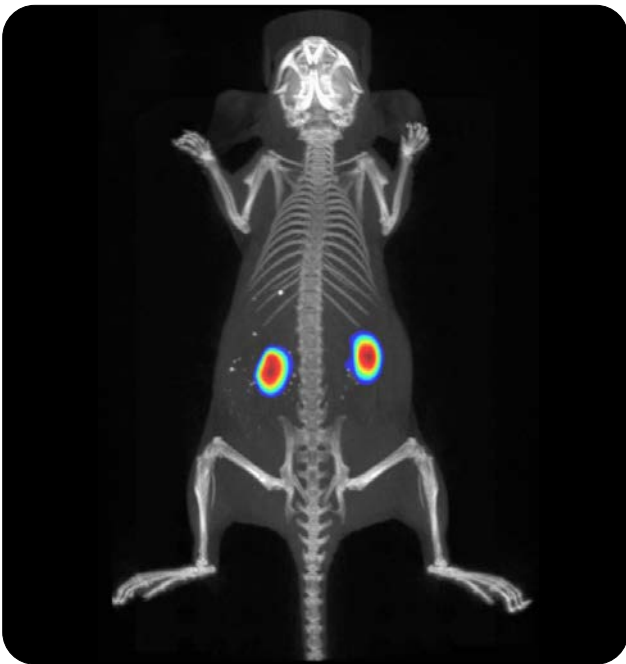

Figure 11: Optical with CT imaging to evaluate folate clearance through the kidneys using IVISense™ Folate Receptor fluorescent probe
For ultimate ease and flexibility, the IVIS SpectrumCT 2 system incorporates all the features of the IVIS Spectrum 2 with the addition of integrated, low-dose computed tomography (CT), bringing together functional and anatomical imaging into single system (figure 11).